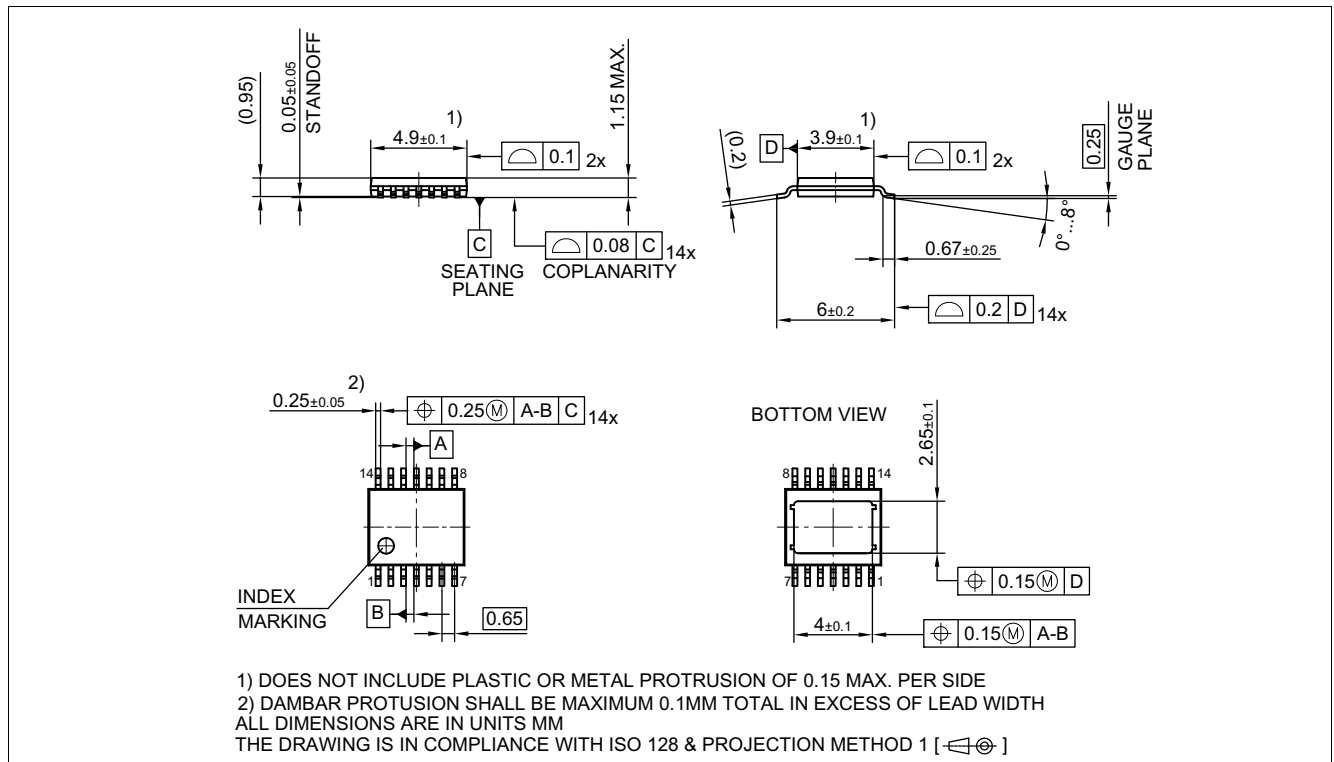
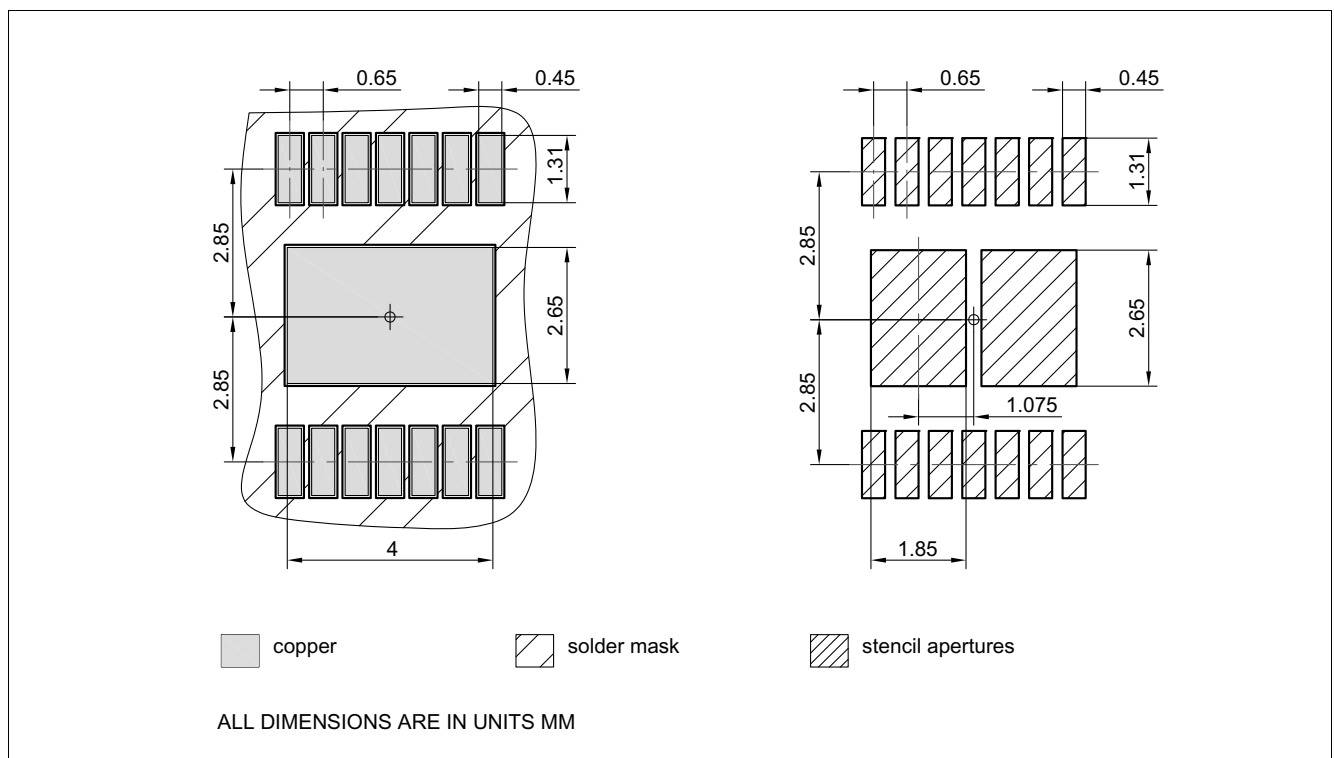

Figure 43 PG-TSDSO-14 (Thin (Slim) Dual Small Outline 14 pins) Package Outline
Figure 44 PG-TSDSO-14 (Thin (Slim) Dual Small Outline 14 pins) Package pads and stencil
1.01 , 2019-06-26	Chapter 9.2 updated ($2\text{ V} \rightarrow V_{DS(OLOFF)}$) General: updated (ReverSave™ $\rightarrow$ ReverseON) Figure 1 updated Chapter 1 updated ((inserted headline "Product Validation"), (Qualified in accordance with AEC Q100 grade 1 $\rightarrow$ Qualified for automotive applications. Product validation according to AEC-Q100 Grade 1.)) General: updated Product Name (PROFET™+2 $\rightarrow$ PROFET™+2 12V) Page 1: updated figure product Table 23 updated punctuation Chapter 9.3.1 updated (typo) Page 1: updated (Package PG-TSDSO-14-22 $\rightarrow$ Package PG-TSDSO-14) Figure 29 updated Figure 43 updated (PG-TSDSO-14-22 (Thin (Slim) Dual Small Outline 14 pins) Package Outline $\rightarrow$ PG-TSDSO-14 (Thin (Slim) Dual Small Outline 14 pins) Package Outline) Figure 44 updated (PG-TSDSO-14-22 (Thin (Slim) Dual Small Outline 14 pins) Package pads and stencil $\rightarrow$ PG-TSDSO-14 (Thin (Slim) Dual Small Outline 14 pins) Package pads and stencil) Table 1 updated ((Symbol: $I_{VS(SLEEP)} \rightarrow I_{VS(SLEEP)_{85}}$), (Parameter: Minimum Overvoltage protection ($T_J = 25\text{ °C}$) $\rightarrow$ Minimum Overvoltage protection ($T_J \geq 25\text{ °C}$)) P_9.6.0.6 updated (Note or Test Condition: removed unnecessary line-break)